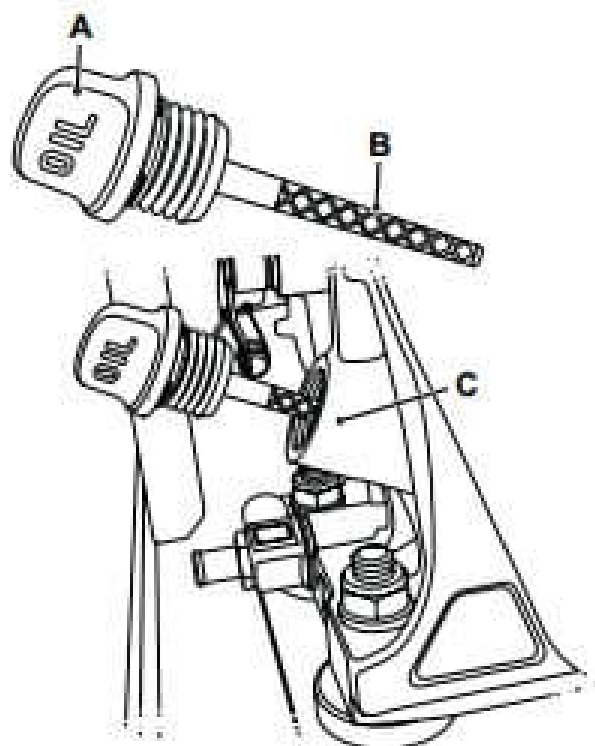

Fig 3.
- 4 Wipe clean the dip stick B. Re-insert the filler cap. Unscrew, withdraw and check the oil level on the dip stick ➔ Fig 3. \(D 12\).
➔ Fig 3. \(D 12\). ➔ Fluids, Lubricants and Capacities \(D 8\).